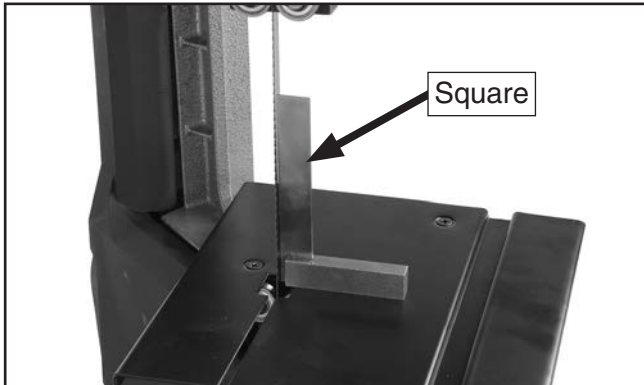

Figure 58. Squaring table to blade.
- Set square on table to side of blade, as shown in **Figure 58**, adjust table bracket until table is square to blade, then fully tighten fasteners from **Step 5** to secure.